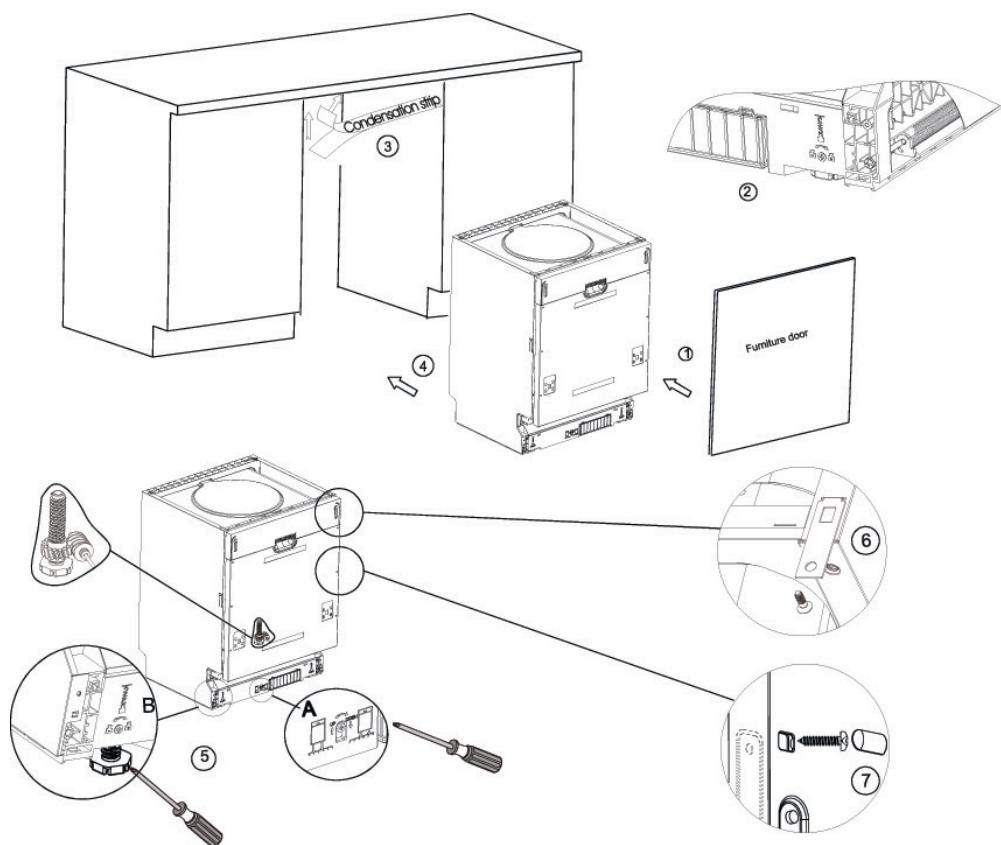

Figure 7. Dishwasher installation sequence
1. Fasten a decorative door of your piece of furniture to the door of your dishwasher, using special fixtures (Item 1, Figure 7).
2. Adjust the door spring tension, using a box wrench, turning it clockwise to tighten up the spring and counterclockwise to release its tension. Failing to do so, may result in breakdown of the dishwasher (Item 2, Figure 7).
6. Mount the dishwasher onto the guides (Item 4, Figure 7).
9. Level the dishwasher. Rear feet may be adjusted using screws, located in front (Item 6a, Figure 7). Adjust the front feet using a wrench (Item 6b, Figure 7).
- A. If your tabletop is made of wood or chip board, attach the dishwasher to it, using wood screws. Be careful because the weight load can draw the screws from wood (Item 7, Figure 7).
- B. If your tabletop is made of marble or granite, fasten the dishwasher to wall of adjoining pieces of furniture. Cover the heads of screws with rubber caps to avoid damage to the tabletop surface (Item 8, Figure 7).
2. The dishwasher design enables to adjust the feet, using the screws in front (Figure 7).